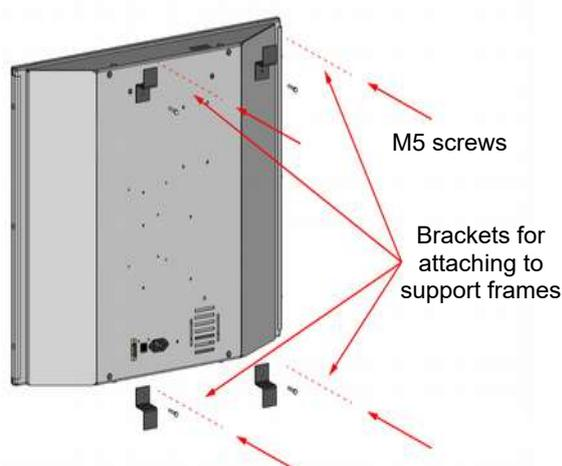

Fig. 3.1: Fixing brackets for FS-24s-1
3. Bring the board to the ground by removing it from its support structure above the basket. Two examples of the fixing are shown in Fig. 3.1 and 3.2.